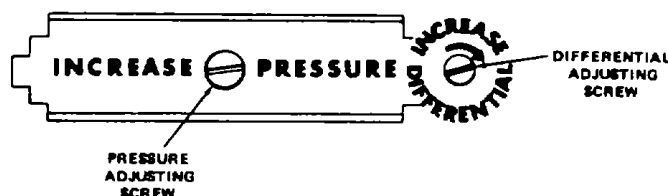

Figure 5-5. Pressure switch adjustment.
- d. To decrease the difference between the CUT-IN and CUT-OUT pressure, turn the differential screw counterclockwise (fig. 5-5).